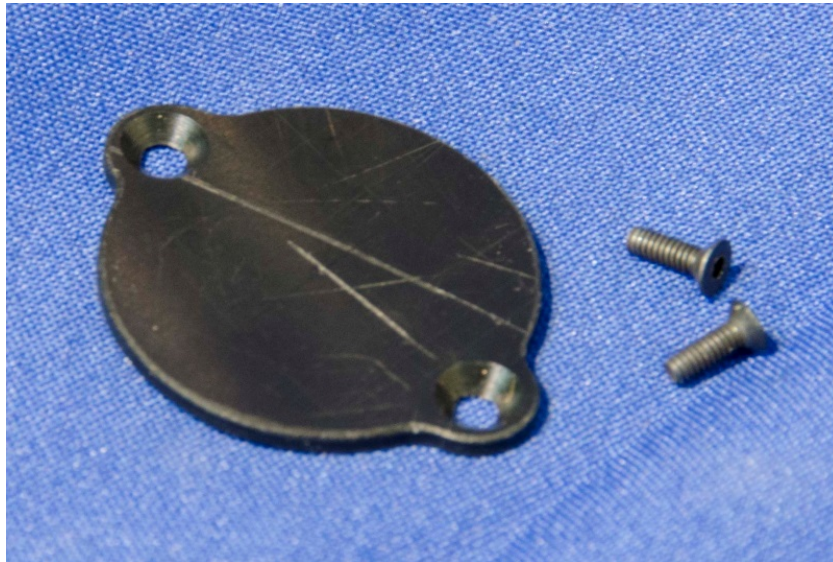
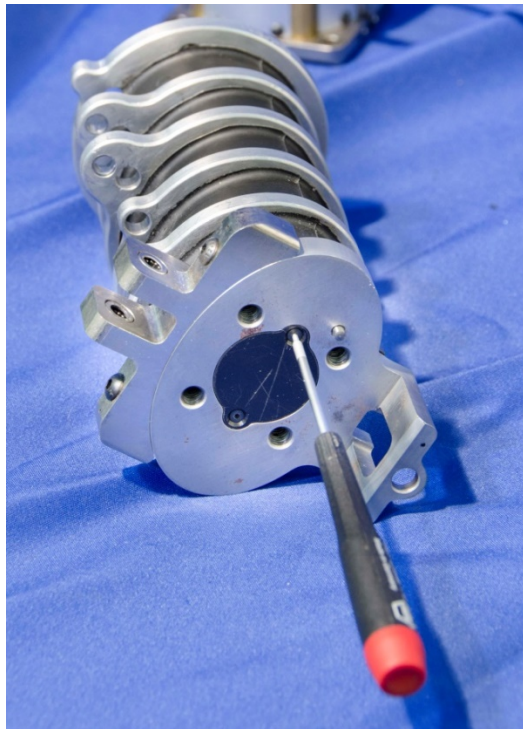

Figure 4-10. Neck cable cover
Figure 4-11. Install neck cable cover
- 4.2.2.3 Install the Neck Cable Cover (472-2103) over the top of the neck center cable fixture using two M2 x 0.4 x 6 FHCS (Figure 4-10 and Figure 4-11).